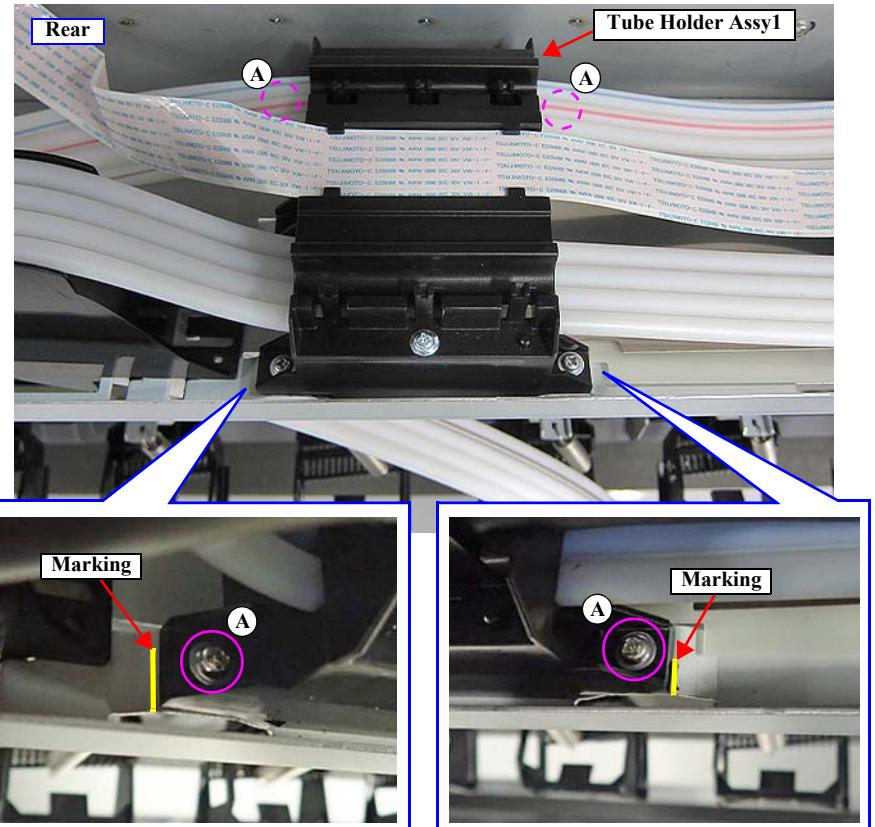

Figure 3-287.
- Attach the Tube Holder Assy1 along the marking. (Figure 3-287)